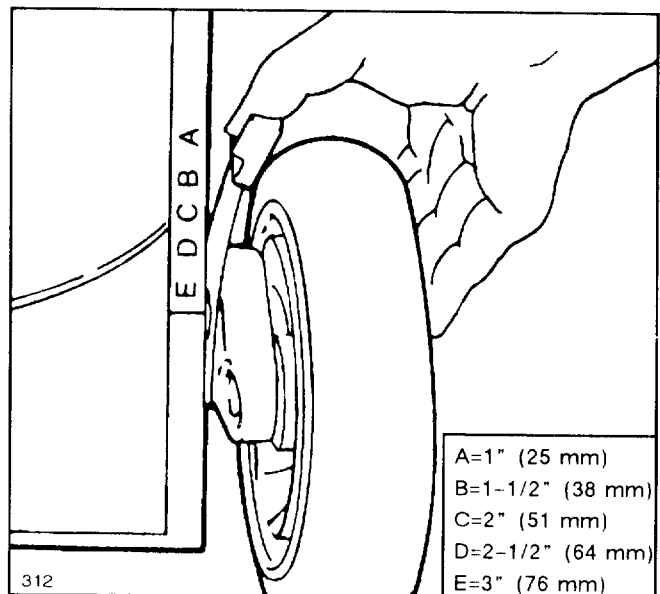

Figure 6
Five letters cast into the housing represent the height-of-cut settings (Fig. 6).
2. For easier adjustment, lift housing up so wheel is off ground. **Do not put fingers under housing when lifting.** Squeeze adjusting lever toward wheel and move to desired setting (Fig. 6). Assure pin on adjusting lever engages notch in housing. Adjust all wheels to the same setting.